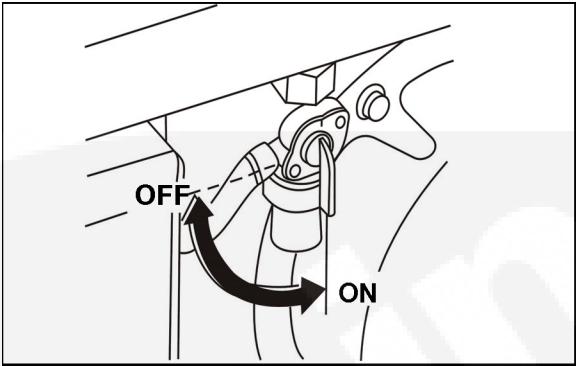

FIGURE 6. FUEL VALVE
1. Open the fuel valve (see Figure 6).